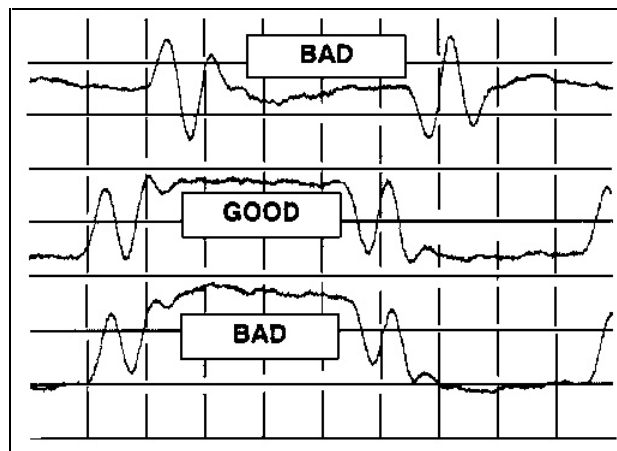

Figure 11 - Typical TX Modulation Low-Frequency Response Curves
12. Key the radio and monitor the demodulated output from the modulation analyzer. Adjust R18 (modulation balance pot) for a good square wave response as shown in Figure 11.